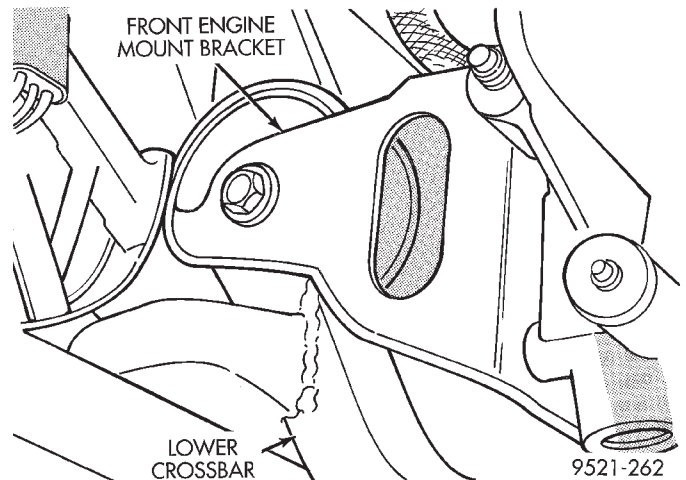
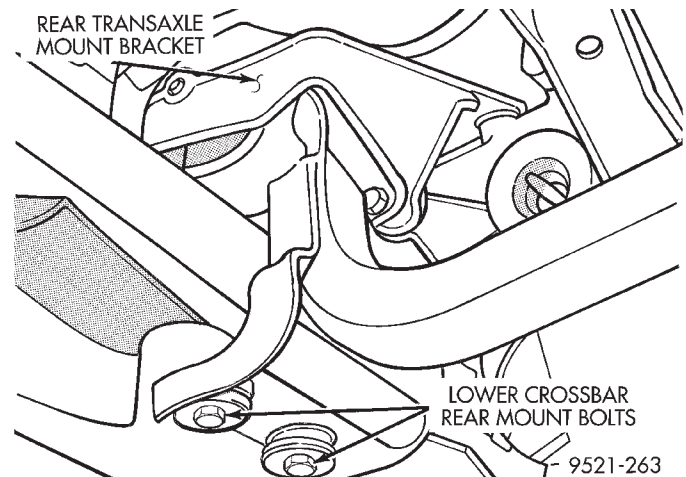

Fig. 30 Lower Crossbar Front Bolts
Fig. 31 Lower Crossbar Rear Bolts
- (20) Remove bolts retaining engine lower crossbar (Fig. 30) (Fig. 31).